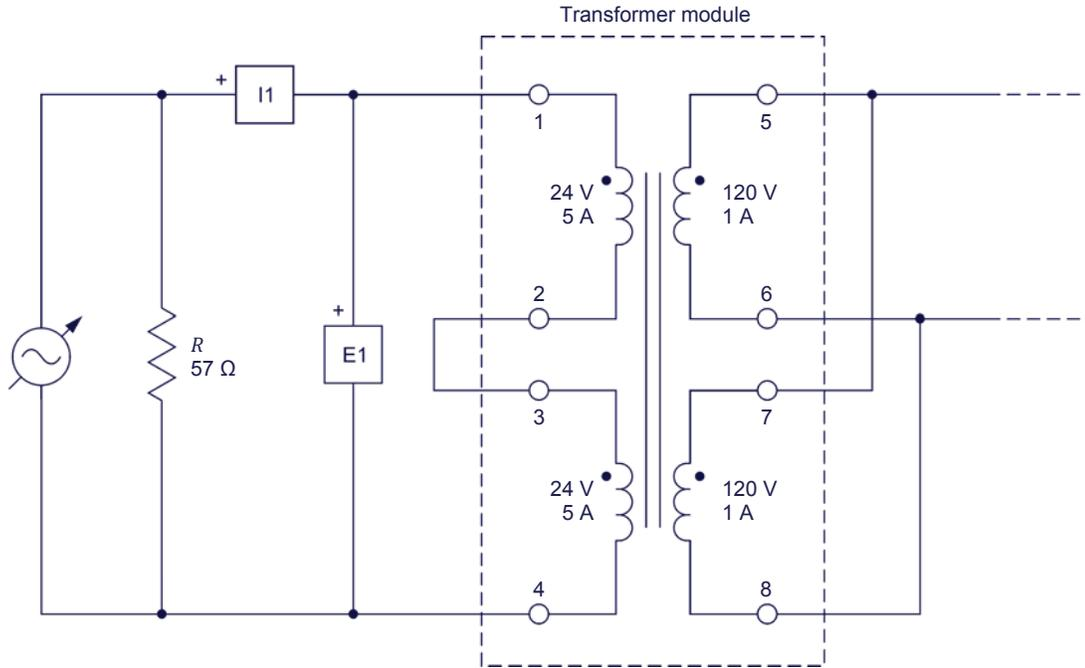

Figure 30. Step-up transformer operating without load.
8. Connect the equipment as shown in Figure 30. In this circuit, the two 24 V primary windings of the Transformer module are connected in series to form a primary winding rated 48 V and 5 A. Also, the two 120 V secondary windings are connected in parallel to form a secondary winding rated 120 V and 2 A.
The resistive load in the circuit of Figure 30 is used to improve the appearance of the voltage waveforms. As the resistive load is connected in parallel to the ac power source, it has no effect on the measured voltages.